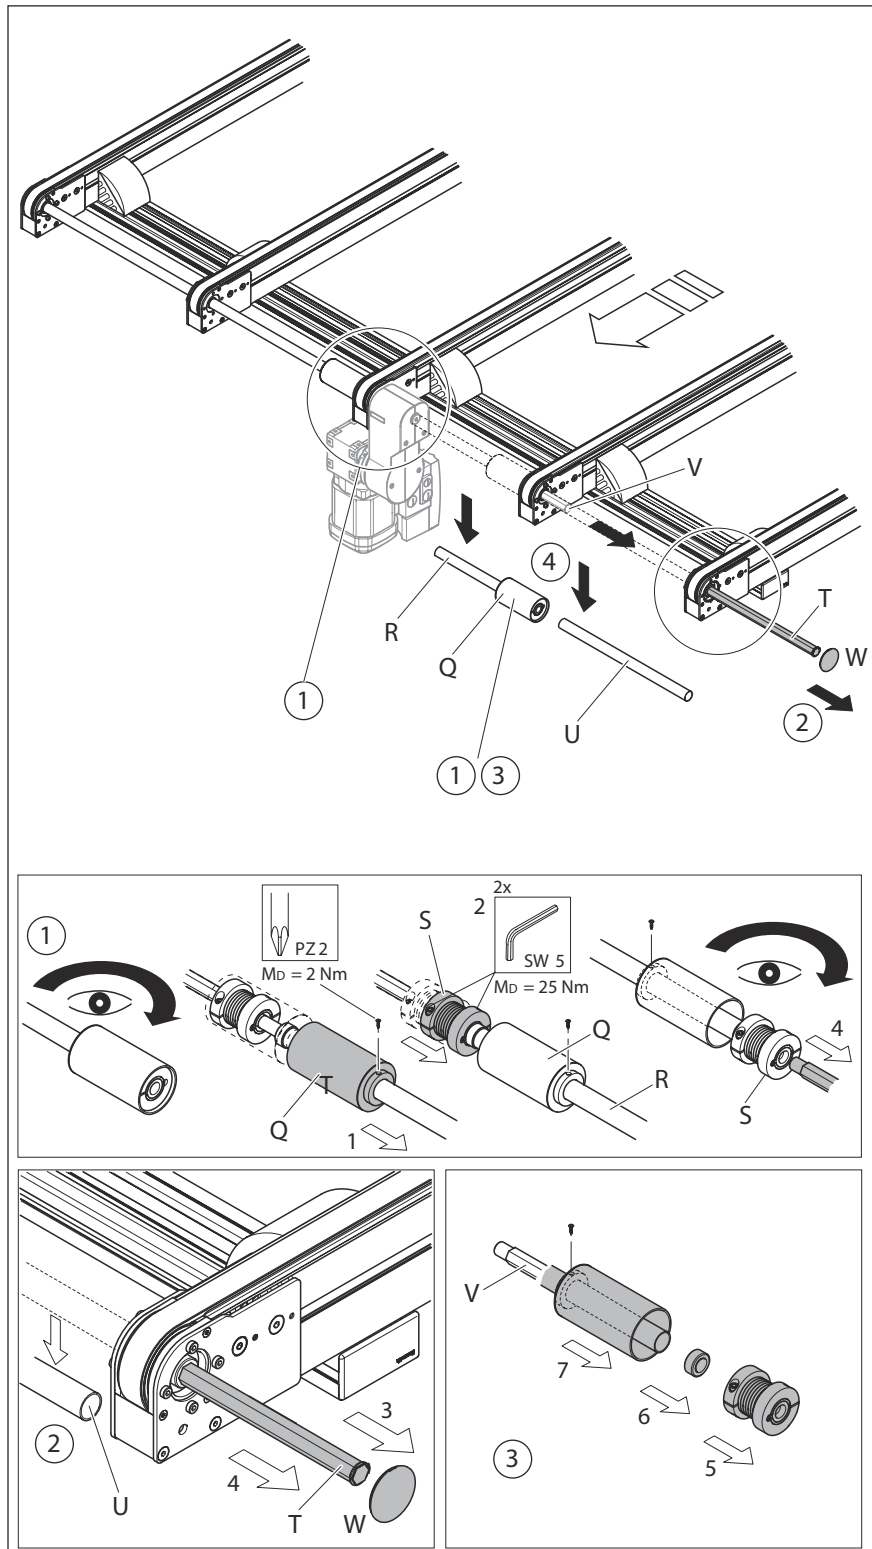

Fig. 11: Assembly at belt section CSS/N, CSS/NT: MS = 3 (1/3)
13. Mount the hexagonal shaft, see Fig. 11.